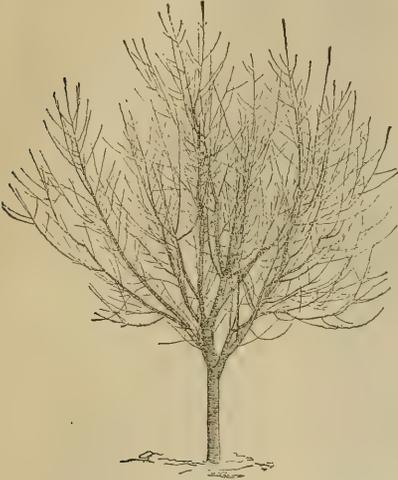

Fig. 105. Shows a neglected four-year-old peach tree. (Paddock and Whipple.)
2. Tell how Fig. 105 was pruned.